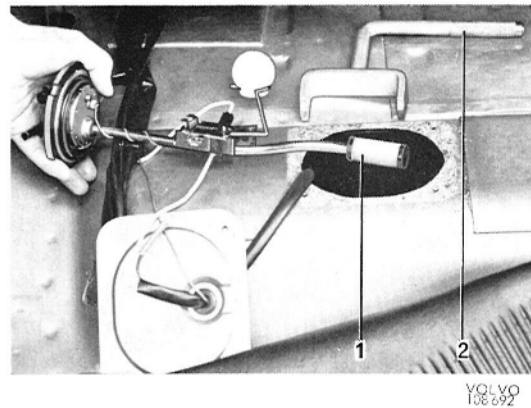

Fig. 2-113. Fuel gauge sender removed
The filter (14), in cars with carburetor engines, is accessible after removal of the fuel gauge sender, see Fig. 2-113. The filter should be cleaned every 40 000 km=24 000 miles.